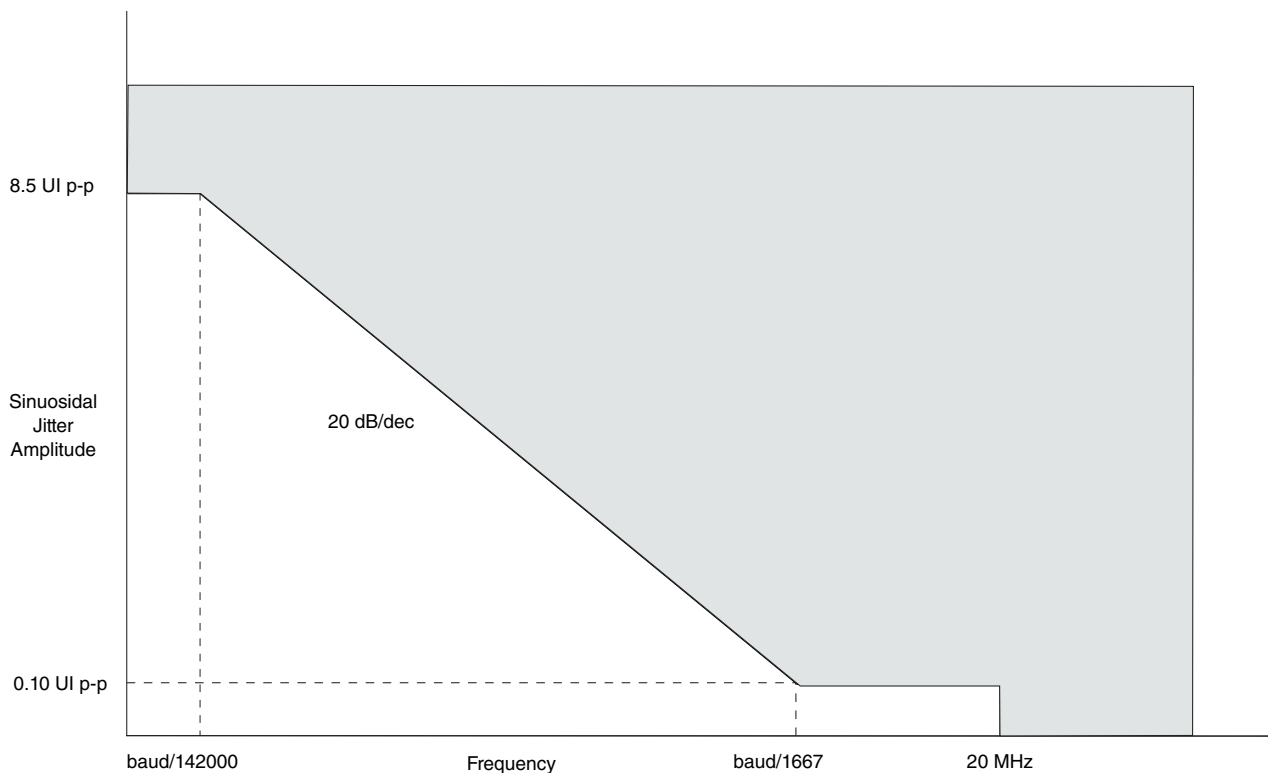

Figure 21. Single-frequency sinusoidal jitter limits
- See Figure 21 for single frequency sinusoidal jitter measurements.
2. Total jitter is composed of three components: deterministic jitter, random jitter, and single frequency sinusoidal jitter. The sinusoidal jitter may have any amplitude and frequency in the unshaded region of Figure 21. The sinusoidal jitter component is included to ensure margin for low frequency jitter, wander, noise, crosstalk and other variable system effects.